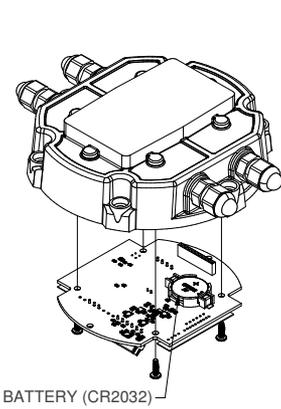

Figure 14
- Remove and replace the coin cell battery (CR2032) on the back side of PC board (see Figure 14).